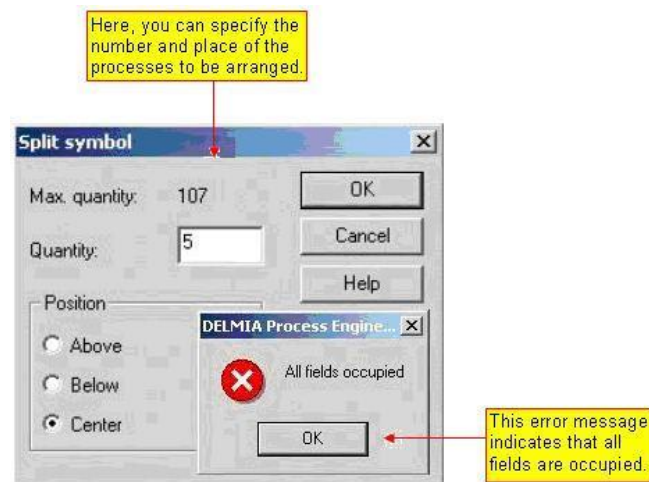

Figure 57: Split Processes Dialog
- 7) If you have selected “Center”, the symbols are arranged evenly around the start symbol. A prerequisite is always that there is enough space in the target area. If there is not enough space, the symbols are arranged in one direction in an empty space. *Please refer to the Figure 57.*